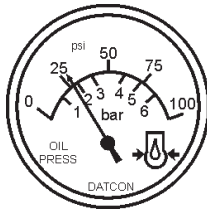

Figure 49. Oil Pressure Gauge
14. The engine oil pressure gauge (Figure 49) will indicate the oil pressure (kg/ cm²) of the engine. Under normal operating conditions the oil pressure is approximately